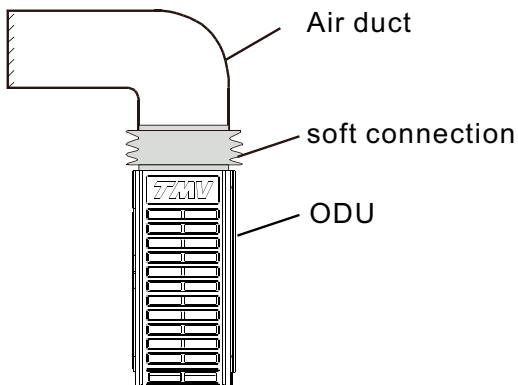

Figure 3-12.1
4. Please install a soft connection between the unit and the air duct to prevent vibration noise (such as Figure 3-12.1)